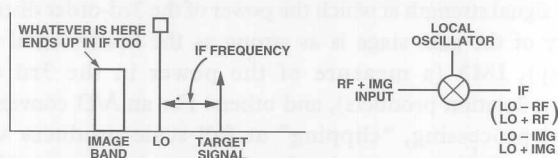

Figure 2. Mixing—the image problem.
*Frequency planning (mixing)*: Radio frequencies are selected based on radio transmission characteristics and availability of bandwidth for use for a given service, such as FM radio or cellular telephony. As was noted earlier, signal processing at high radio frequencies tends to be expensive and difficult. Besides, this added trouble seems unnecessary, since in most cases the actual signal bandwidth is at most a few hundred kHz. So most radio receivers use frequency translation to bring the signal carriers down to lower, more manageable frequencies for most of the signal processing. The most common means of frequency translation is a *mixer* (Figure 2).